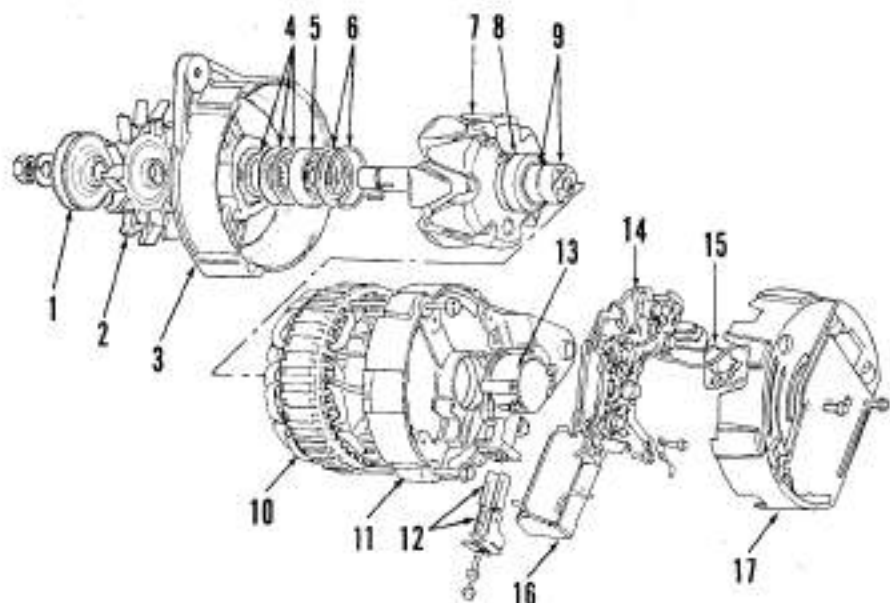

Fig. 107—Exploded view of typical Lucas alternator used on some MF240 and MF250 tractors.
**104. OVERHAUL.** To disassemble alternator, first remove rear cover (17—Fig. 107). Disconnect and remove surge protection diode, regulator (16) and brush holder (13) with brushes (12). Note that these parts can be removed without removing the alternator from the engine. Any further disassembly of alternator will require removal of alternator.